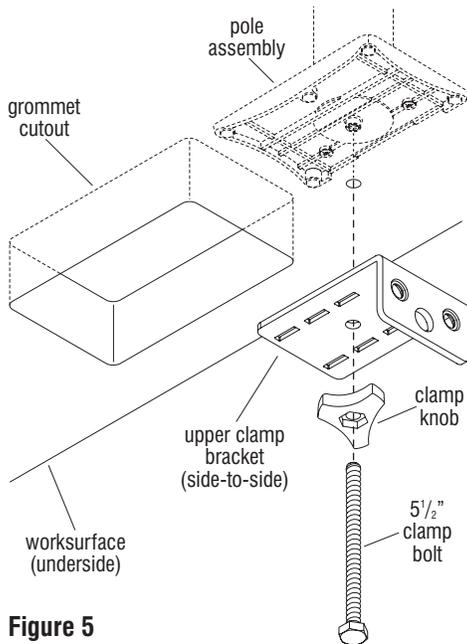

Figure 5
4. Flip upper clamp bracket upside down as illustrated in figures 5 & 6 and position the upper clamp bracket side-to-side (Figure 5) (with the flange to face the left or right table sides) or front-to-back (Figure 6) over the drilled mounting hole as illustrated, align and hold in place from under the work surface (Figures 5 & 6).
5. Slide the clamp knob onto the 5 1/2" long clamp bolt and tap the bolt head into the recess in the knob, ensuring the bolt head is securely engaged into the knob (Figures 5 & 6).